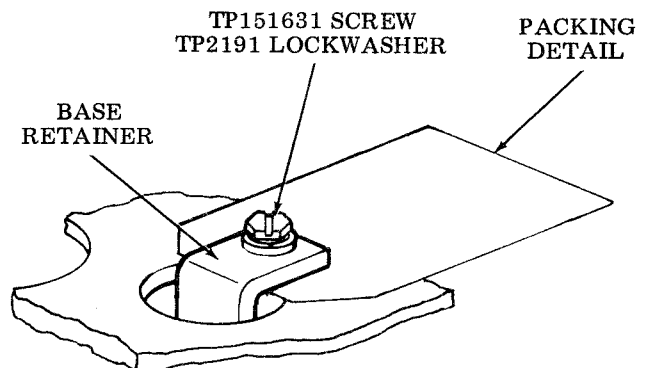

Figure 8 - Base Retainers
4.01 Remove the 6-40 screws from the two base retainers (Figure 8). DO NOT REMOVE THE BASE RETAINERS. Remove packing detail between base and pan. When packing detail is removed, vibration mounts will push the base against the base retainers. When installed, the weight of the typing unit will restore clearance between base and base retainers.